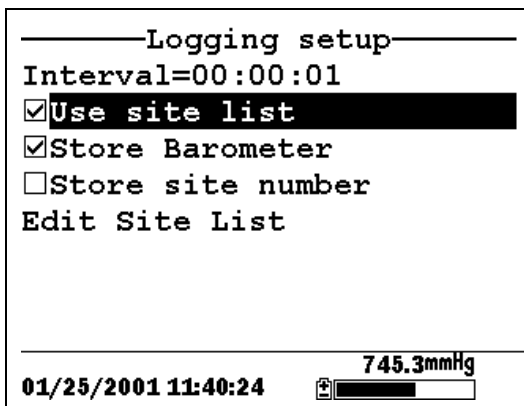

Figure 9.6 Logging Setup Screen
3. Press the **Enter** key. A check mark is entered in the box next to the use site list selection *and* two new entries appear on the logging setup screen. See Figure 9.6 Logging Setup Screen.
- 2.** Use the arrow keys to highlight the **Edit Site List** selection. See Figure 9.6 Logging Setup Screen.